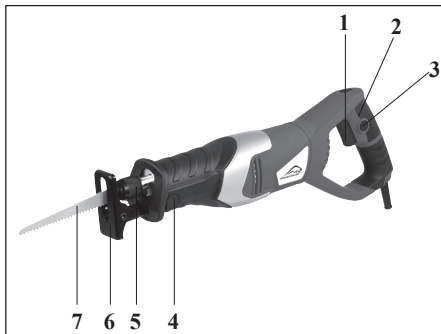

Fig. 1
3.3 Adjustment of the guide shoe (Fig. 1)